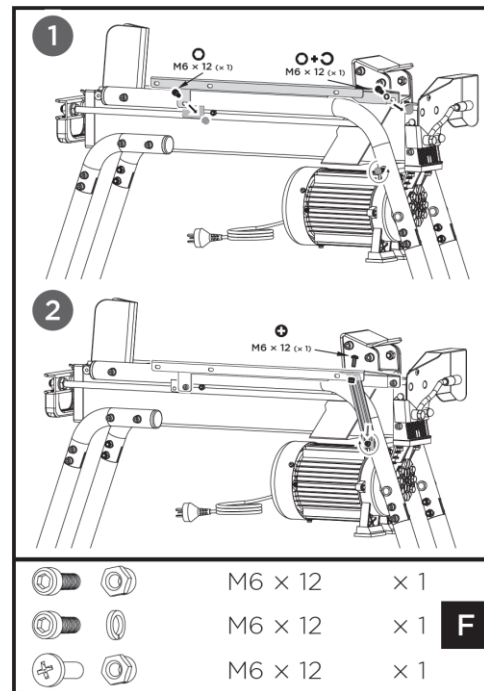

Fig. 6
1. Mount the right end of the bottom guard plate (e) to the rear end cap of the machine using an M6x12 socket head cap screw and a spring washer (F). Secure the left end to the connecting plate of the pipe rail with an M6x12 socket head cap screw and a locknut M6 (F). See Fig. 6.
2. Loosen the M8x50 socket head cap screw that secures the log retaining tube (5) to the body tube. Insert the open end of support strut 2 (d) and tighten the screw. Connect the upper end of support strut 2 (d) to the bottom guard plate (e) using a cross recessed screw. See Fig. 6.